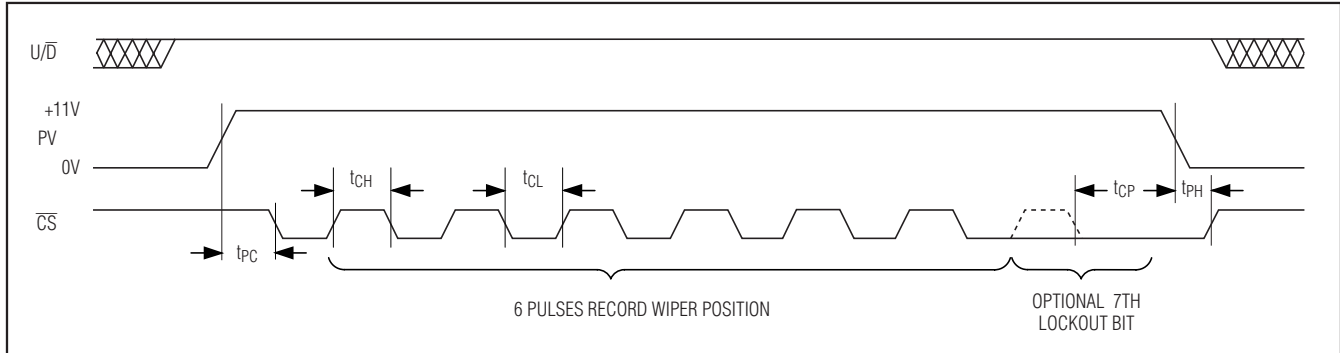

Figure 5. One-Time Program Mode, Serial-Interface Timing Diagram
Change the wiper's power-up position using the PV one-time programming sequence after power-up (see Figure 5). After setting the wiper to the desired power-up position, perform the following six-step sequence:
- 4b) Pulse  $\overline{CS}$  high for seven cycles, consisting of  $\overline{CS}$  starting low and going high for at least  $t_{CH}$  and then low for at least  $t_{CL}$ , to change the wiper power-up position and lock the wiper in that same position. The seventh  $\overline{CS}$  pulse is labeled the optional lock-out bit in Figure 5.